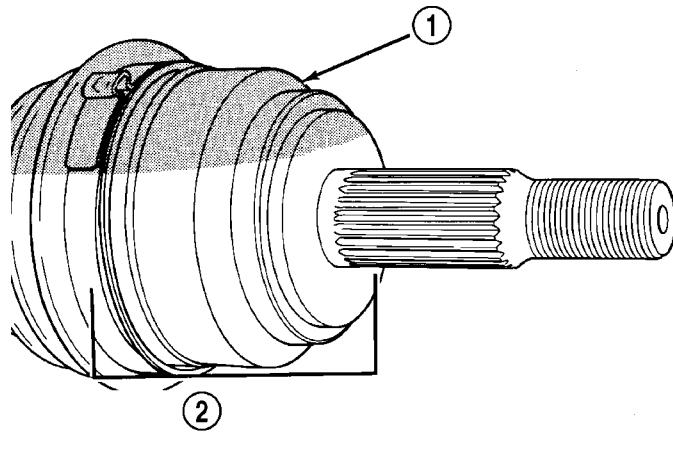

Fig. 19 Outer C/V Joint Inspection
(5) Ensure that front of outer C/V joint, which fits into steering knuckle (Fig. 19), is free of debris and moisture before assembling into steering knuckle.